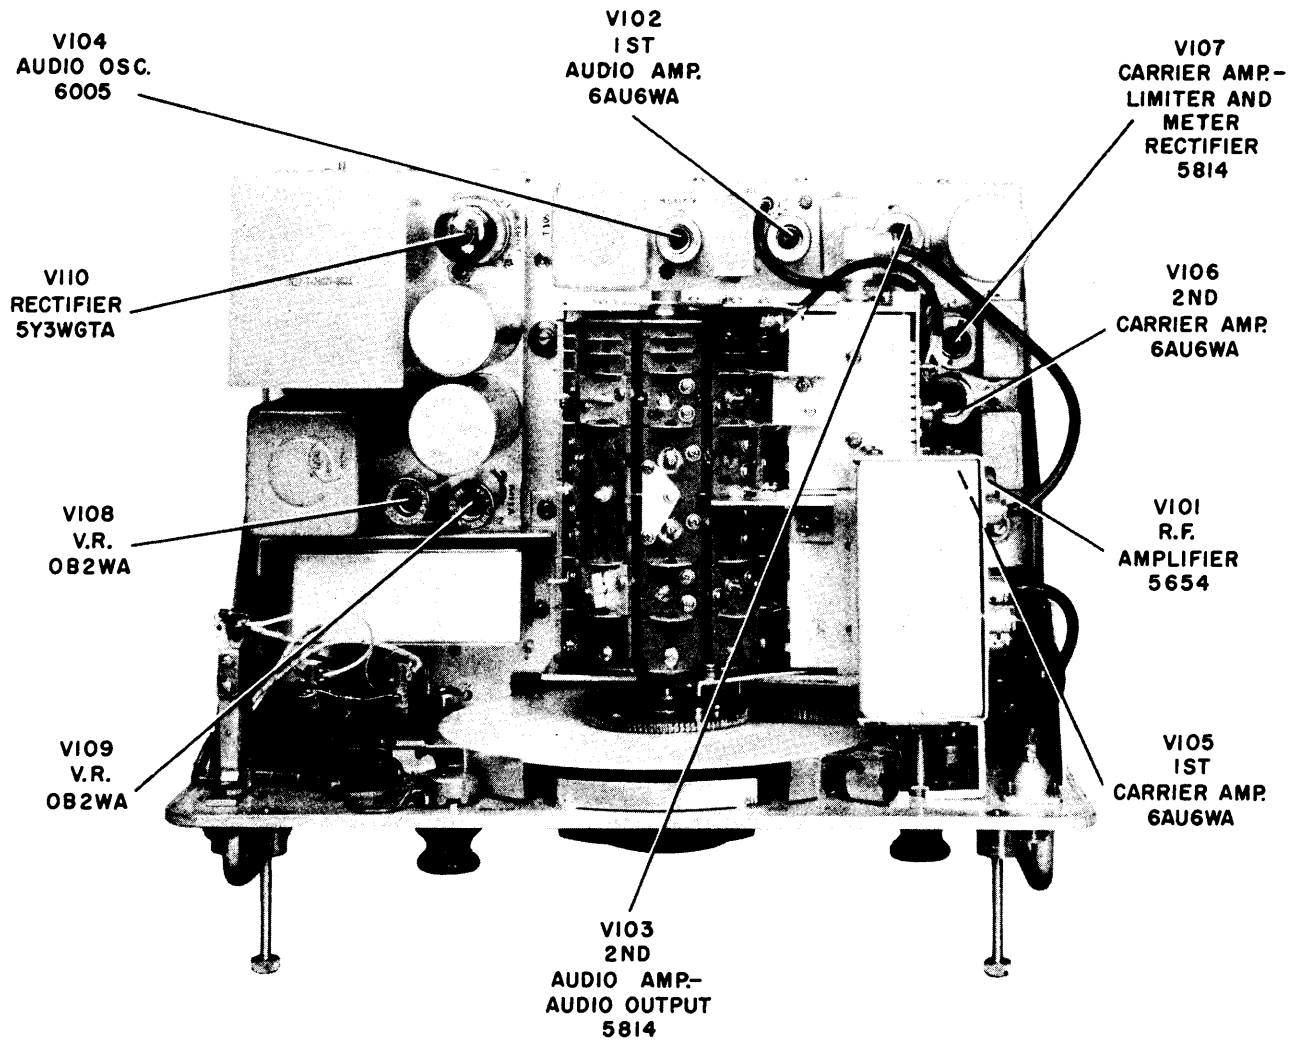

Figure 5-2. Tube Locations, Field Strength Meter IM-84/URM-50
b. ELECTRON TUBES.—All electron tubes employed in the AN/URM-50 Monitor are located and identified on Figure 5-2. If a particular tube is burned out, as observed visually by the absence of heater or filament glow, the tube can be replaced by the same type tube of proven quality. To gain access to the tubes it is necessary to remove the field strength meter from its cabinet. To do so first disconnect the antenna and the power cable. Release the four captive screws on the front panel and withdraw the unit from the cabinet. See Figure 3-3. The power cord may